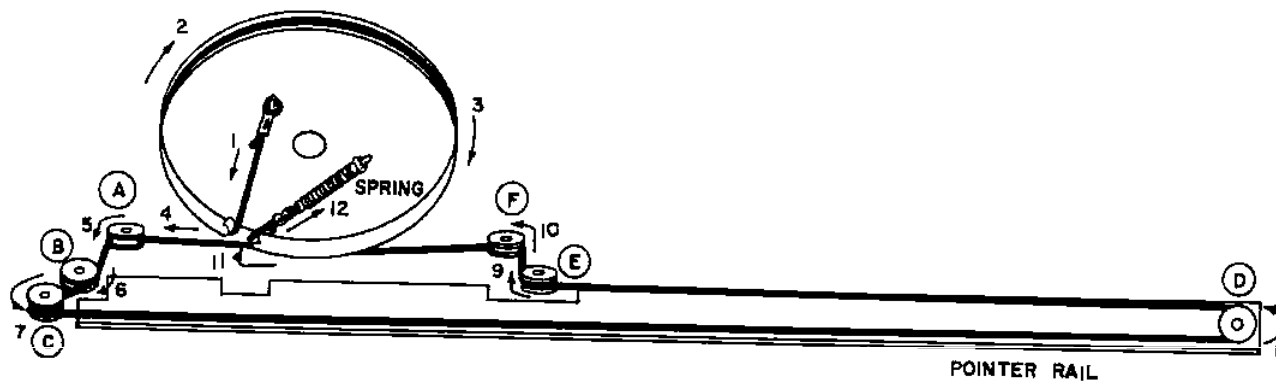

Figure 15. Dial Cord Stringing Diagram
5. Restraining the dial cord as follows (Fig 15):
- a. Attach the end of the cord to the tab (1) and pull the cord down and around the wheel. Proceed clockwise around the wheel (2 and 3) down behind wheel A (4).
- b. Continue up over wheel B (6) up to wheel C (7). Proceed across pointer rail to wheel D (8).
- c. Continue around wheel D to the left and over wheel E (9). Proceed down behind wheel F (10).
- d. Finish up by routing the cord into the wheel slot (11) and attach the spring on the tab (12).